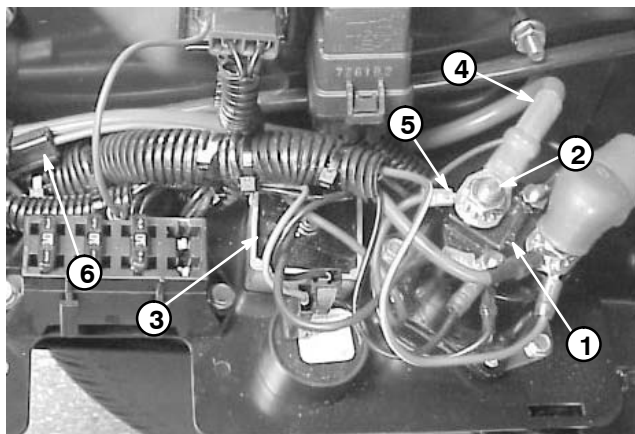

Figure 10
3. Make sure all wires in the charging circuit are connected correctly and tightly. Note the correct location of starter/generator cable and voltage regulator wire at the start/run solenoid (Fig. 10).
- A. Disconnect green wire connector from voltage regulator (Fig. 10). Connect disconnected green wire lead from starter/generator to ground with a jumper lead.